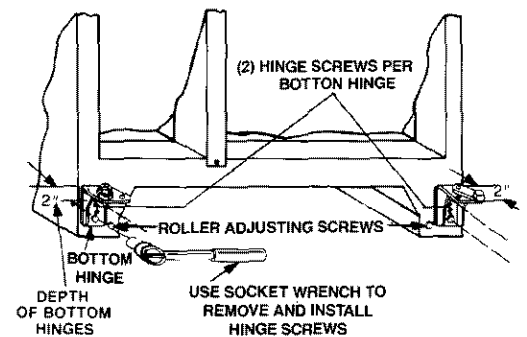

FIGURE 27
- Mark around the lower hinge brackets with a pencil. See Figure 27.